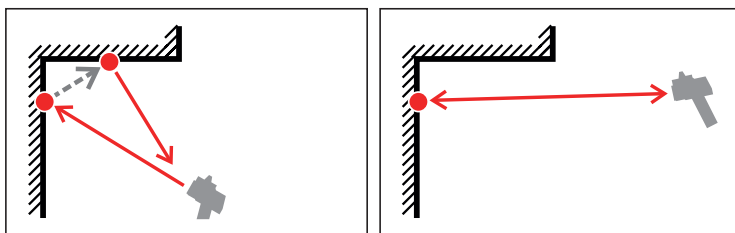

Fig. 15: Error source during measuring (3)
- the laser beam generates several reflection points on the reflective surface e.g. surfaces curved inwards or corners (fig. 15).